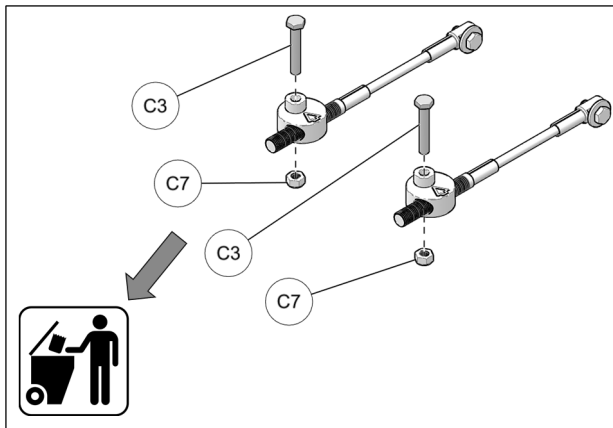

Fig. 21
11. Discard bolts (C3) and nuts (C7) included in Steering limiter cable kits. They are not needed for installation on this particular vehicle model. Fig. 21